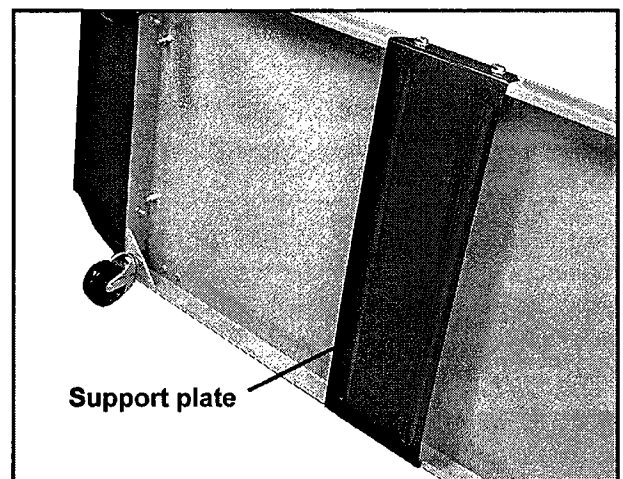

FIGURE 5
3. Mount the support plate to the underside of the base, as shown in Figure 5. Use four screws, eight flat washers and four nuts.